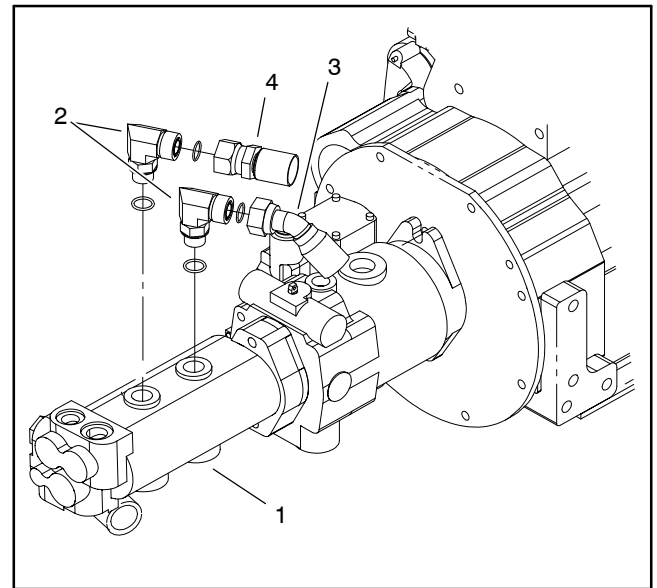

Figure 31
3. Locate gear pump section to be tested (P1 or P2). Disconnect appropriate hydraulic hose from 90° hydraulic fitting in gear pump (Fig. 31).